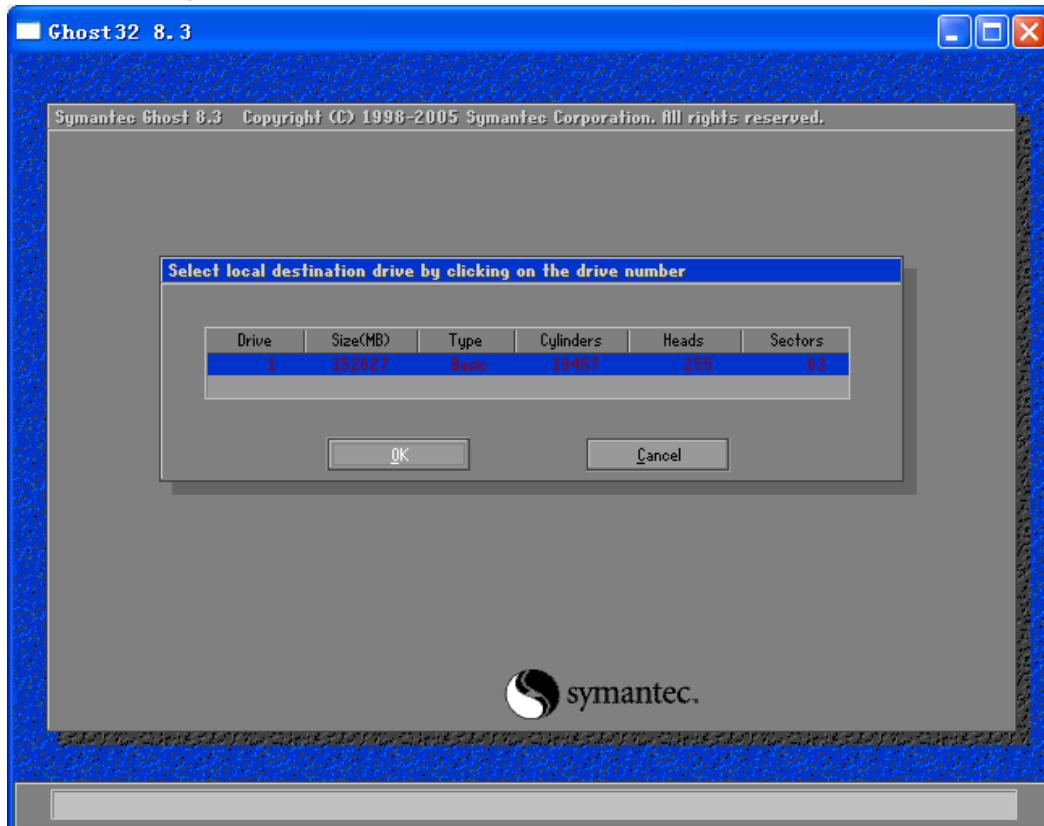

Figure 8-3 Destination Drive Selection Window
- 1) When “Sampling Probe Unit” and “Reagent/Sample/Reaction Tray Unit” are reset, the sampling probe is in the position as shown in Figure 8-3. When the sampling probe is being rotated, the rotating arc is in the middle between the rinse tank and No. 90 test cuvette;